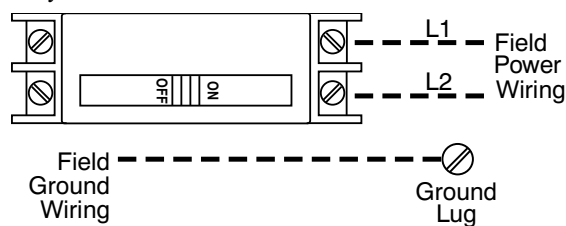

Fig. 5 – 10 kW Circuit Breaker and Disconnect Heaters
- Units with 10kW heaters are wired for single-supply circuit only (Fig. 5).